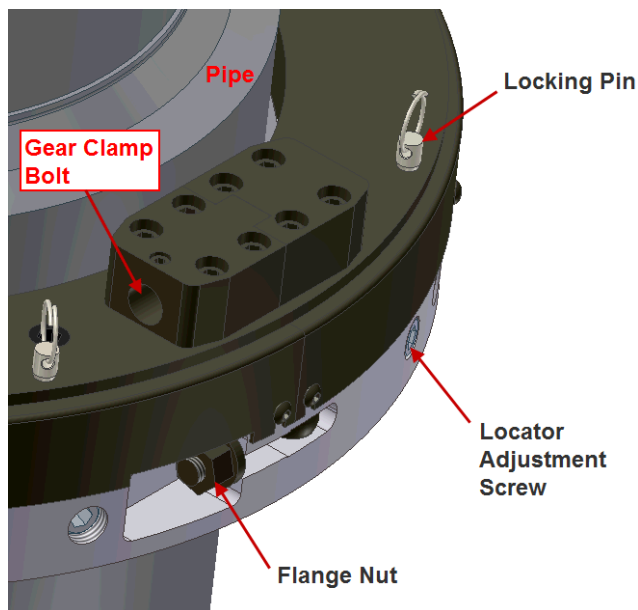

Figure 7
1. Install the 2 halves of the Clamshell around the pipe and tighten the housing bolts and the clamp bolts on the gear (see Fig. 7).